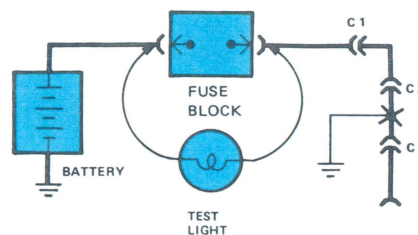

Figure 3 — Short Check
- b) Test light ON: short is in wiring. Find short by disconnecting circuit connectors one at a time. In the example (Figure 3) with a ground at X,